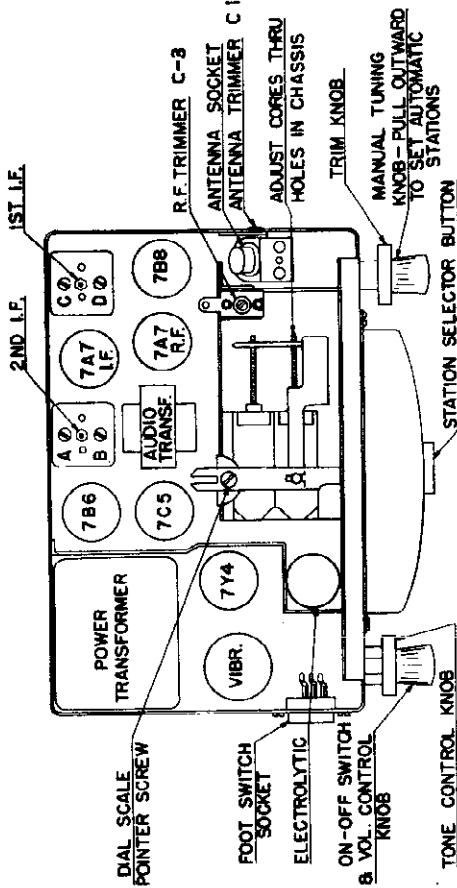
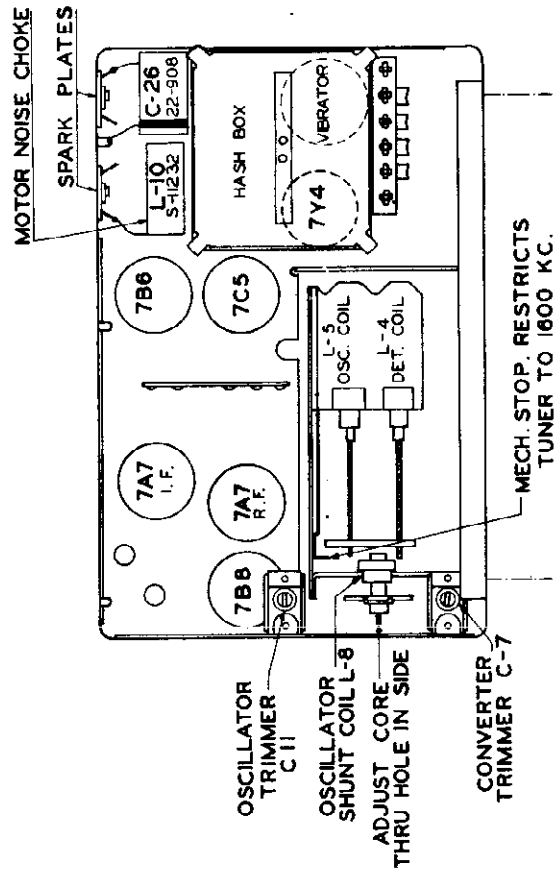

Fig. 7. Top View of Chassis
Fig. 8. Bottom View of Chassis
- 6—Adjust oscillator trimmer C-11 (Fig. 8) at 1700 Kc.
- 7—Adjust converter trimmer C-7, R.F. trimmer C-3, and antenna trimmer C-1 (Fig. 7 and 8) for maximum output reading.
- 10—Adjust oscillator core L-5 (Fig. 8) to scale at 1200 Kc.
- 11—Adjust the antenna core, R.F. core, and converter core (Fig. 7 and 8) for maximum output reading.
- 13—“Rock in” shunt oscillator coil L-8 (Fig. 8) for maximum output reading. This should be done only as a last resort. This is the same as rocking in the paddler condenser on a ganged condenser receiver.
- 4—Adjust I.F. trimmers, A, B, C and D (Fig. 7) in the order named for maximum output. Repeat the operation to assure accurate alignment.
- 4—Adjust oscillator trimmer C-11 (Fig. 8) for maximum response.
- 7—Adjust converter trimmer C-7 (Fig. 8) and R.F. trimmer C-3 (Fig. 7) for maximum response.